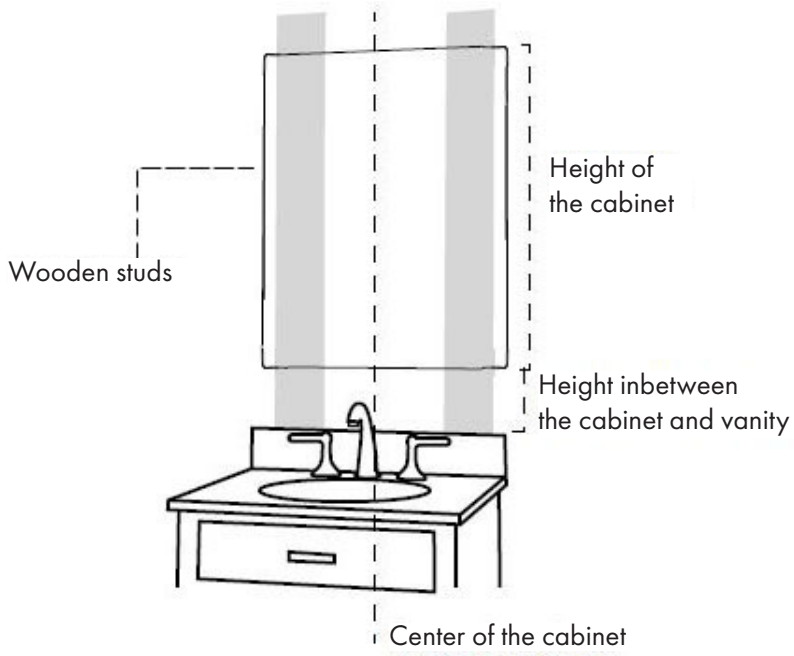

Fig. 1
1. Center your cabinet in desired location on the wall. For secure application, locate the studs within the wall to mount the cabinet properly. If you cannot locate the studs, you will need to purchase additional hardware to secure your cabinet to the wall and/or open the wall to install additional bracing. (Figure 1)
3. Allow for 1" of clearance on height elevation above any obstructions as illustrated in Figure 1. *Note the door will exceed the cabinet body by 1" on top and bottom of most cabinets. Refer to technical data for exact sizes.